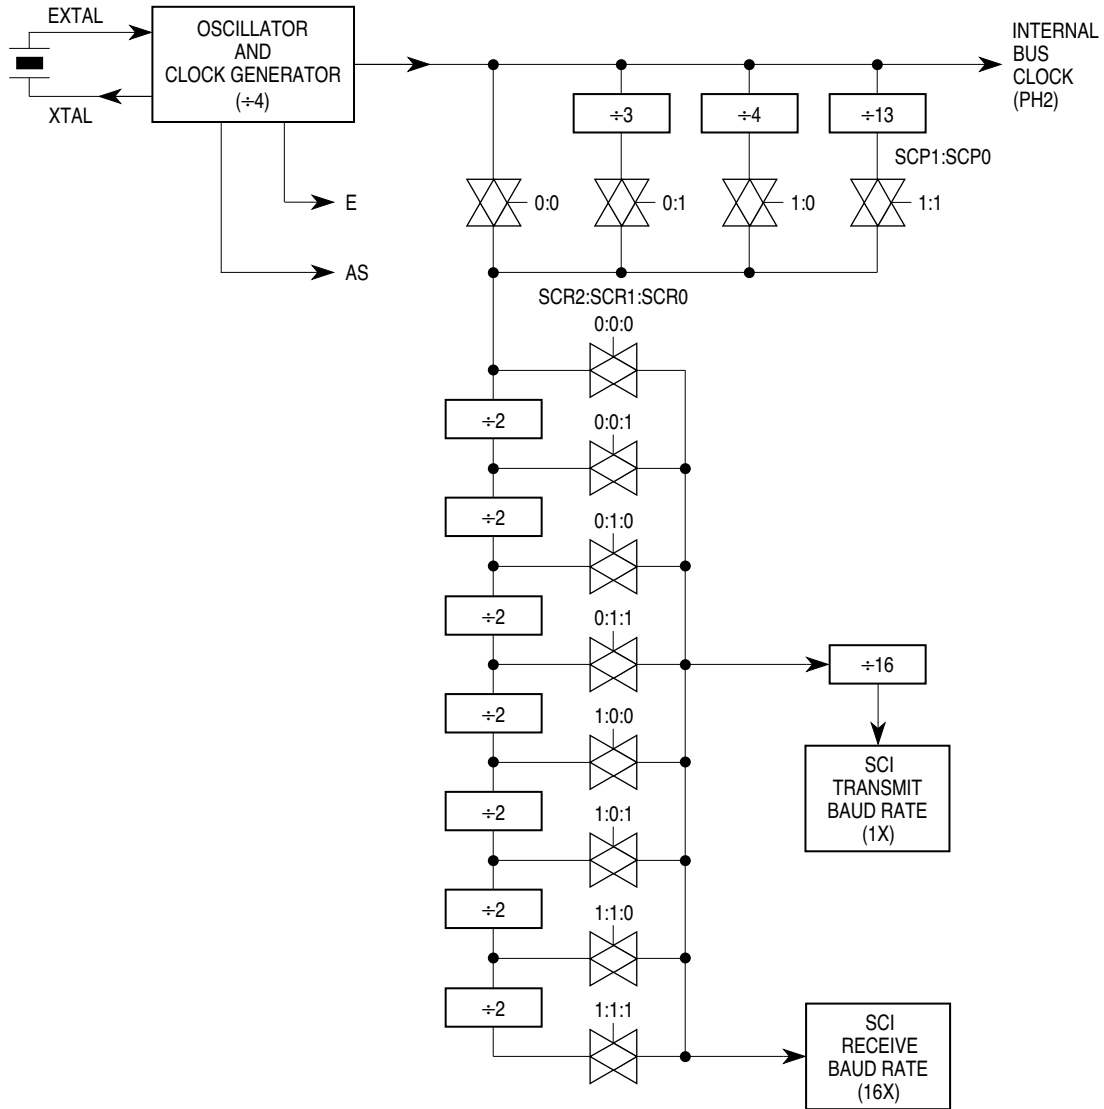
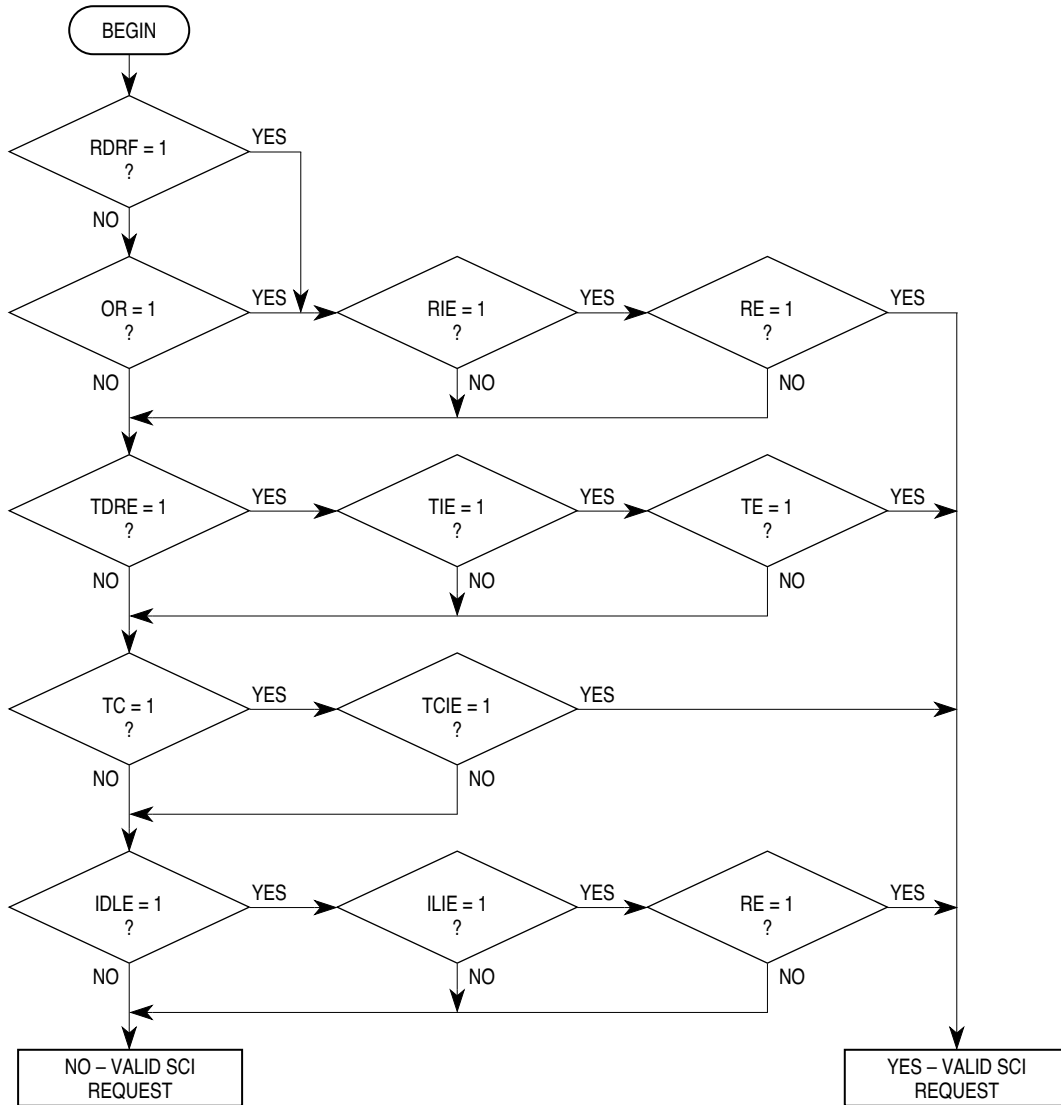

Figure 7-3 SCI Baud Rate Generator Block Diagram
Figure 7-4 Interrupt Source Resolution Within SCI
Figure 7-3 and **Figure 7-4** illustrate the SCI baud rate timing chain. The prescaler select bits determine the highest baud rate. The rate select bits determine additional divide by two stages to arrive at the receiver timing (RT) clock rate. The baud rate clock is the result of dividing the RT clock by 16.
The SCI receiver has five status flags, three of which can generate interrupt requests. The status flags are set by the SCI logic in response to specific conditions in the receiver. These flags can be read (polled) at any time by software. Refer to Figure 7-4, which shows SCI interrupt arbitration.